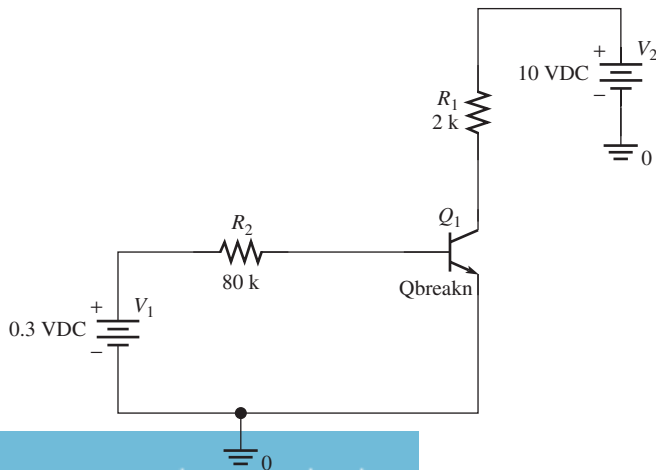

FIGURE 8.95 Placing the transistor.
2. Place the transistor and set up the PSpice circuit as shown in Figure 8.95.